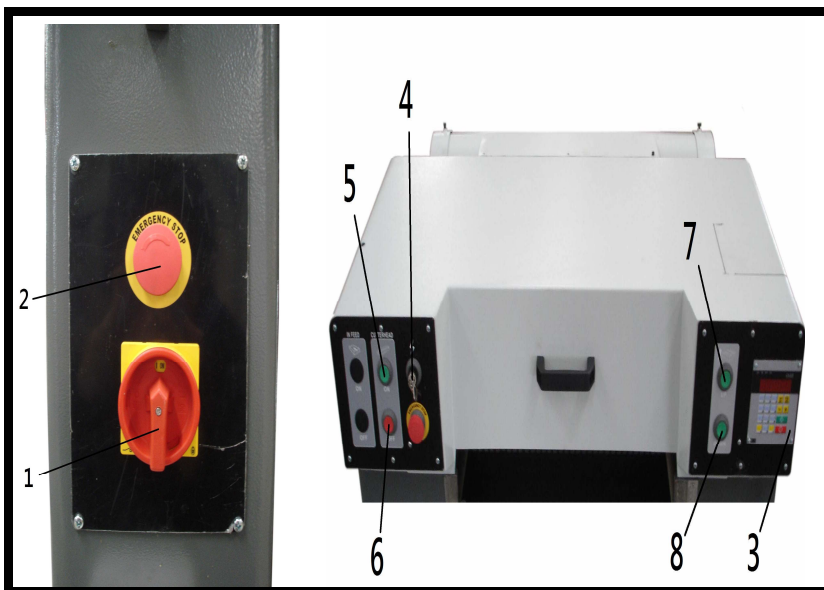

Fig. 4
4. Please refer to Fig. 4, Fig. 5 of Control Panel and Connections To Power Source.